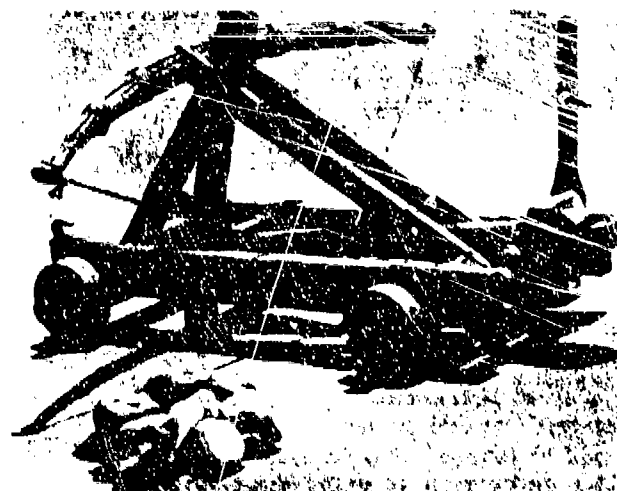

Figure 1-1. Ballista.
b. The ballista (fig 1-1) had horizontal arms like a bow and was used to reduce fortifications. The arms were set in rope; a cord, fastened to the arms like a bowstring, fired arrows, darts, and stones. Like a modern field gun, the ballista shot low and directly toward the enemy.